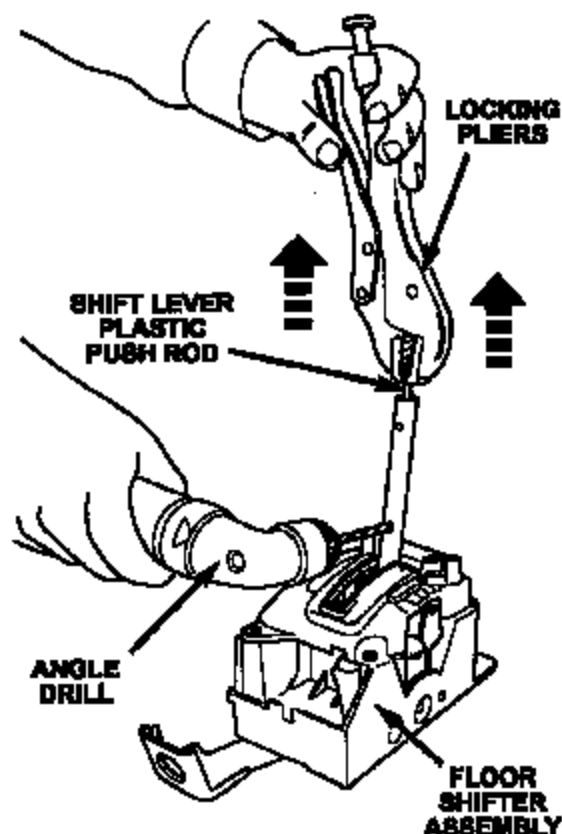

Figure 4 – LH Model Shown
10. Clamp locking pliers onto the end of the push rod. (Figure 4).
- Insert the drill bit into the hole made in Step 9 until it lightly rests against the plastic push rod (Figure 4).
- While operating the drill, gently pull up on the locking pliers (Figure 4) that were installed in Step 10.